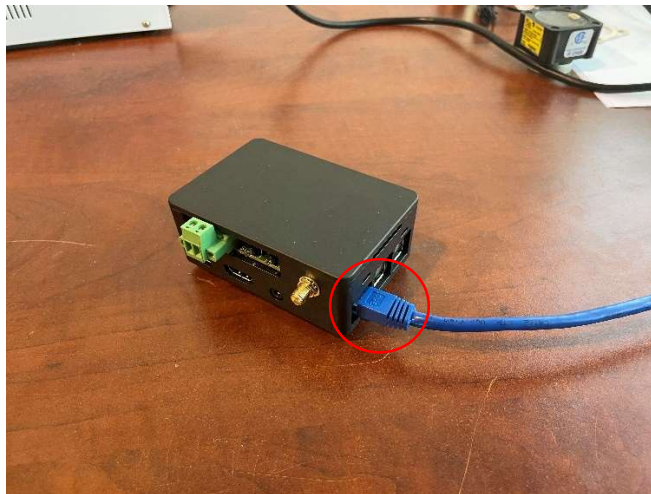

Figure 1
- Connect the other end of the Ethernet cable to the border router (Figure 1)